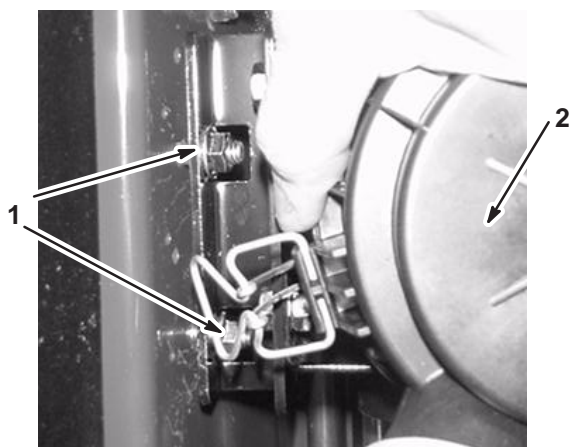

Figure 13
- Loosen the nuts securing the air cleaner to the frame (Fig. 13).
5. Slide the slots in the lever plate over the air cleaner bolts, between the frame and the air cleaner mounting bracket (Fig. 13).